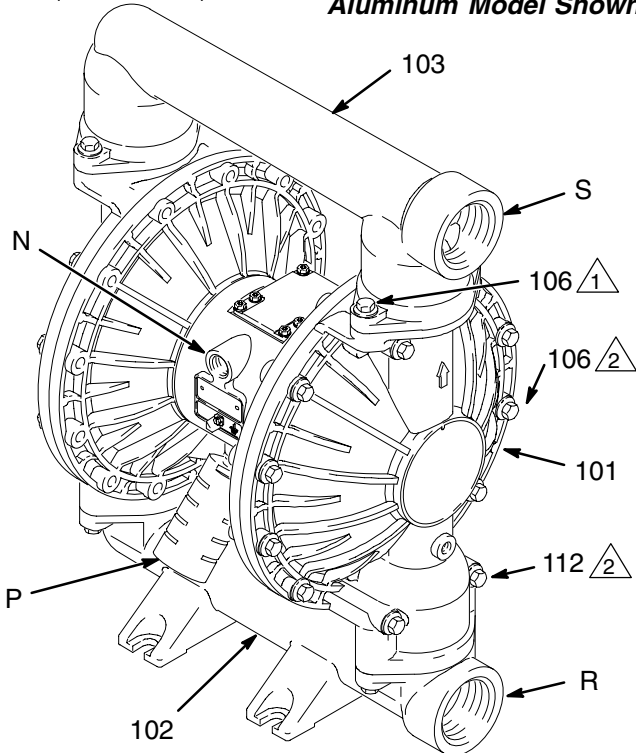

Fig. 3
- The pump is very heavy. If it must be moved, have two people lift the pump by grasping the outlet manifold (103) securely. See Fig. 3 on page 8.
The pump is shipped with the fluid inlet (R) and outlet (S) ports facing the same direction. See Fig. 3. To change the orientation of the inlet and/or outlet port:
1. Remove the screws (106) holding the inlet (102) and/or outlet (103) manifold to the covers (101).